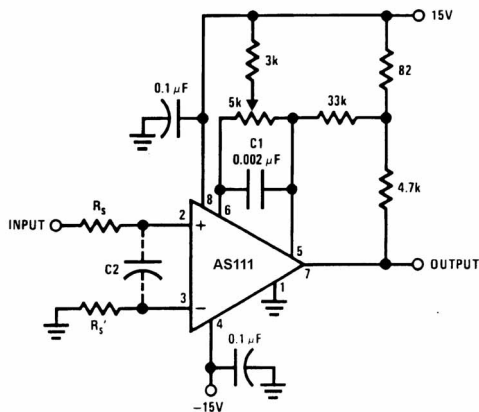

FIGURE 1. Improved Positive Feedback
However, when the input signal is a voltage ramp or a slow sine wave, or if the signal source impedance is high (1 kW to 100 kW), the comparator may burst into oscillation near the crossing-point. This is due to the high gain and wide bandwidth of comparators like the AS111. To avoid oscillation or instability in such a usage, several precautions are recommended, as shown in Figure 1 below.
should be shorted together. If they are connected to a trim-pot, a 0.01 μ F capacitor C1 between pins 5 and 6 will minimize the susceptibility to AC coupling. A smaller capacitor is used if pin 5 is used for positive feedback as in Figure 1.
7. When both inputs of the AS111 are connected to active signals, or if a high-impedance signal is driving the positive input of the AS111 so that positive feedback would be disruptive, the circuit of Figure 1 is ideal. The positive feedback is to pin 5 (one of the offset adjustment pins). It is sufficient to cause 1 to 2 mV hysteresis and sharp transitions with input triangle waves from a few Hz to hundreds of kHz. The positive-feedback signal across the 82Ω resistor swings 240 mV below the positive supply. This signal is centered around the nominal voltage at pin 5, so this feedback does not add to the V_{OS} of the comparator. As much as 8 mV of V_{OS} can be trimmed out, using the $5\text{ k}\Omega$ pot and $3\text{ k}\Omega$ resistor as shown.